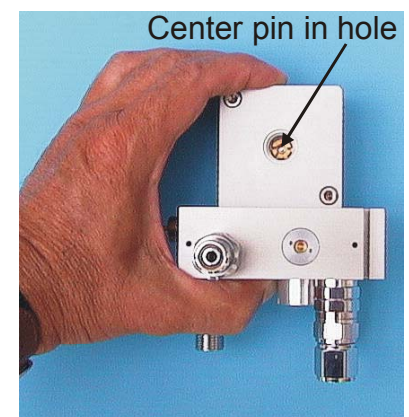

Figure 6
- 5.2.10. With the chamber assembly input/output orifices facing you, take the bottom half of the blender, lay it on its side and hold the chamber assembly firmly against it so as to align the bottoms of the two chamber halves in a flat plane (see Figure 6).